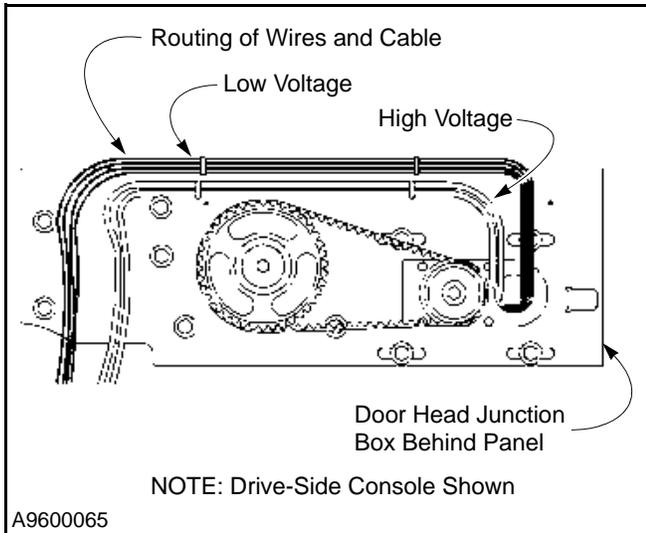

Figure 65
4. Continue routing this cable through to the left console assembly and over to the door head junction box, located behind a panel on the drive side console. (See Figure 65.)